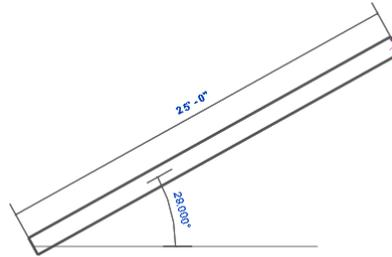

Figure 3-31 The temporary dimensions displayed on the wall
- e. Invoke the **Line** sketching tool and then sketch the exterior walls based on the given parameters, refer to Figures 3-31 through 3-38.
3. Right-click in the drawing area; a shortcut menu is displayed. Choose the **Zoom In Region** option from the shortcut menu and zoom into the area to get a closer view of the sketched wall segment, as shown in Figure 3-31 (for zooming techniques, refer to Chapter 2- Starting an Architectural Project).